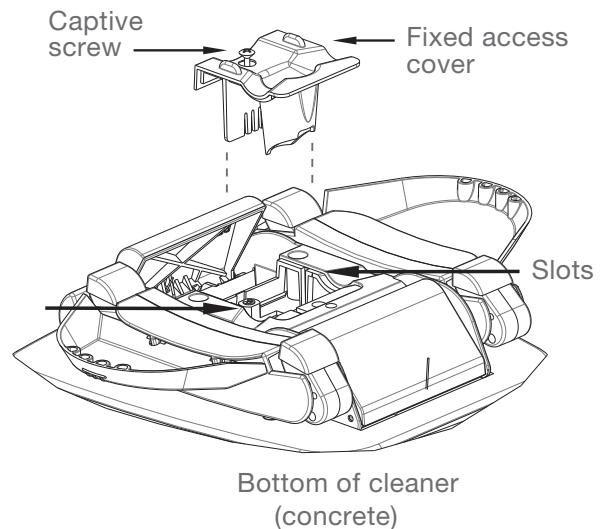

Fig. 15
6. Lift the bottom opening (see Figs. 15 & 16)
5. Locate and loosen the captive screw behind the throat in the center of the bottom (see Figs. 15 & 16).
6. Lift bottom opening (see Figs. 15 & 16).
9. Reinstall bottom opening by lining up the fixed access cover with the two slots shown in Figs. 15 & 16. Slide the cover in place and tighten the captive screw.